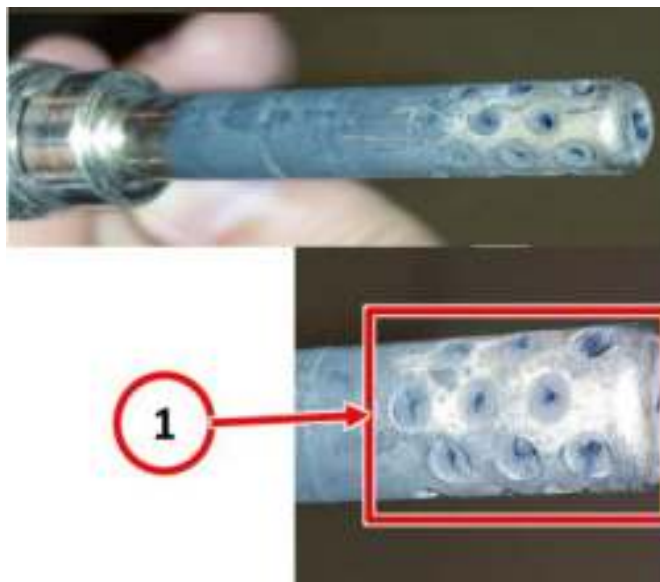

Fig. 1 EGT Sensor Bank 1 Sensor 1
13. Inspect the sensor body and probe for any signs of damage or excessive soot. See (Fig. 1).